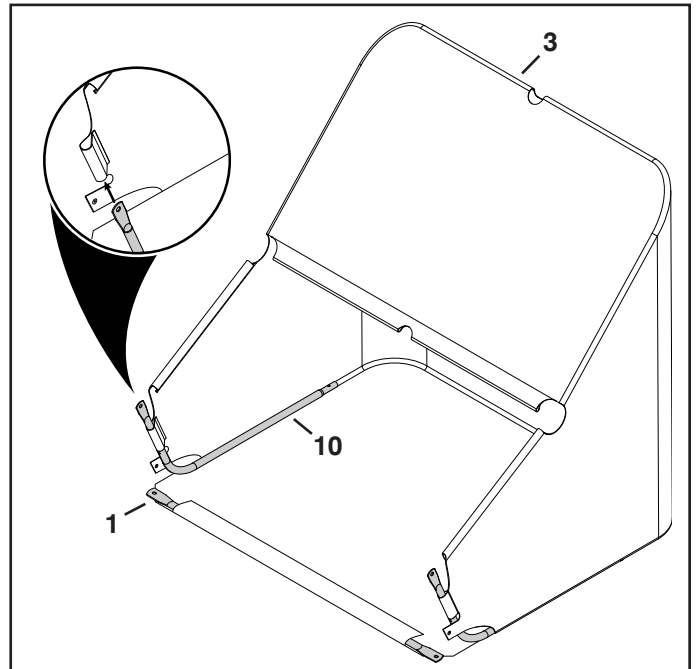

FIGURE 7
STEP 7: (SEE FIGURE 7)
- Slide the bag frame tube (1) through the front flap in the bottom of the bag.
- Slide the two lower hopper tubes (10) into the flaps at the front of the hopper bag (3) as shown.